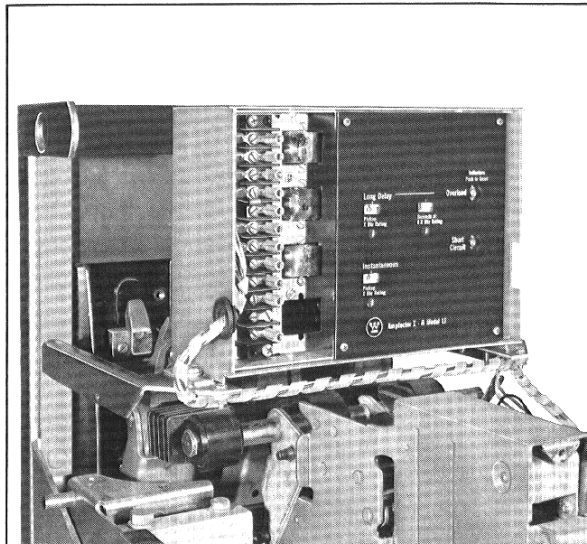

Fig. 12 Amptector Mounted with Wiring Harness
- The Amptector is now mounted between the brackets using .25-20 x .5 fil. hd. screw, washers and the .25-20 threaded hole in the bracket, Fig. 12.
3. Slide the grommet over the front end of harness, connect colored wires to the Amp-jector per wiring diagram, then place grommet into split hole on the left side of Amp-jector. Attach the harness to the front of the Amp-jector using the nylon clamps and .164-32 x .50 mach. screws, nuts and washers, see Fig. 12.